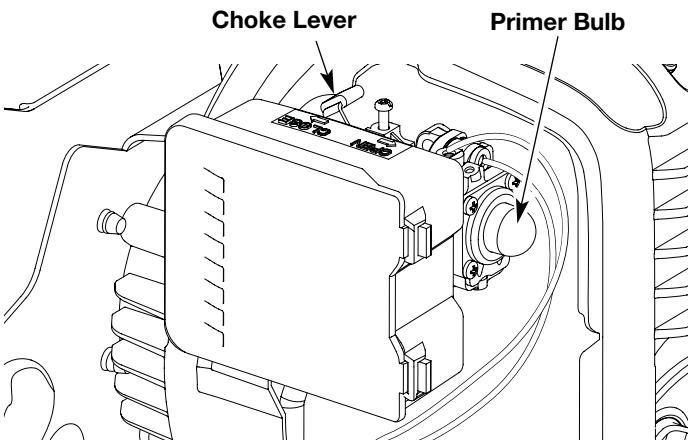

Fig. 9
3. Fully press and release the primer bulb 10 times, slowly. Some amount of fuel should be visible in the primer bulb and fuel lines (Fig. 9). If you can't see fuel in the bulb, press and release the bulb as many times as it takes before you can see fuel in it.